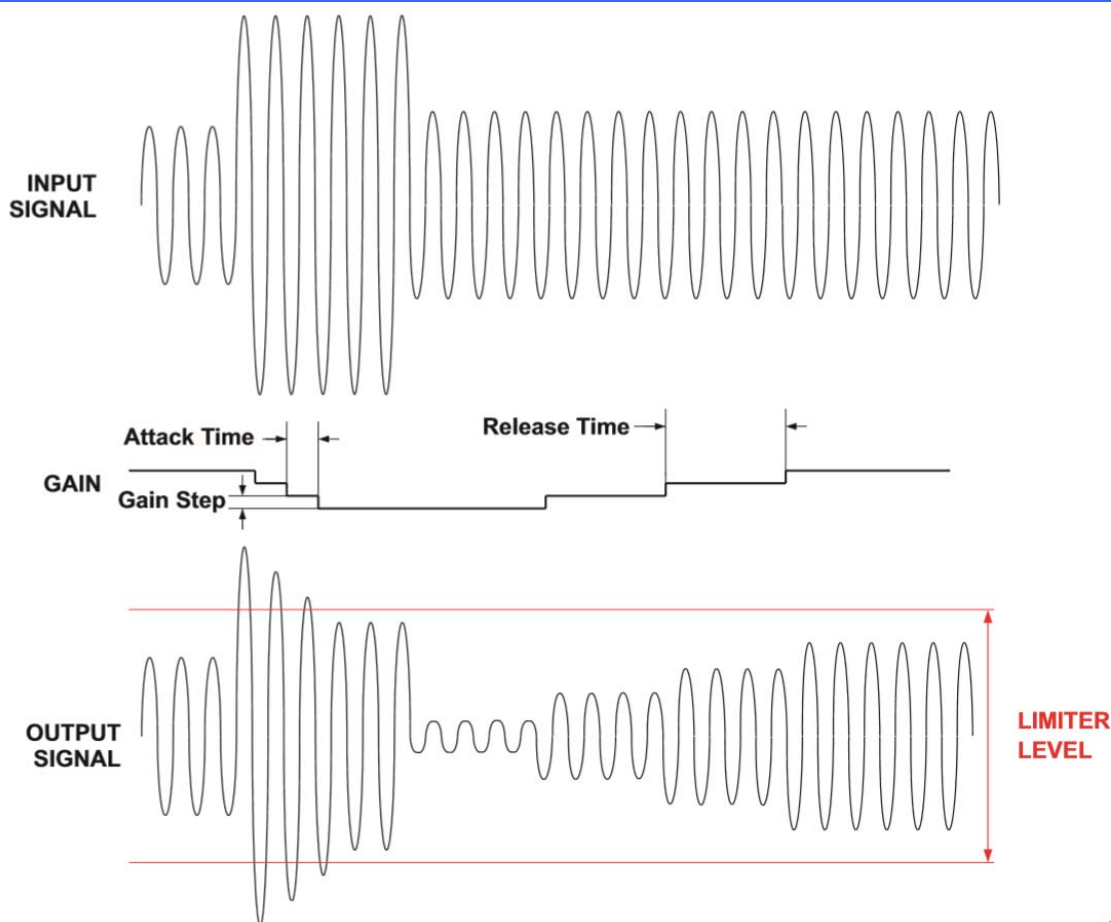

Fig. 1 Limiter Function
When Limiter function activates, the output music can be limited below the Limiter Level (V_{LIM_L}). If the output audio signal exceeds the Limiter Level, HT87(T) decreases amplifier gain by the rate of attack time (default value 10ms/dB), 0.25dB per step. HT878(T) increases the gain by the rate release time (default value 160ms/dB), 0.25 per step, once the output audio is below the limiter level. Fig. 1 Limiter Function shows this relationship.